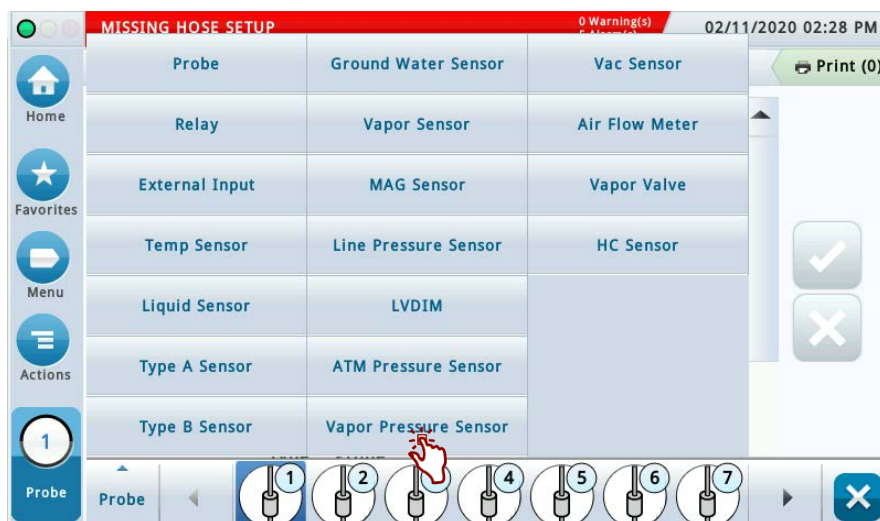
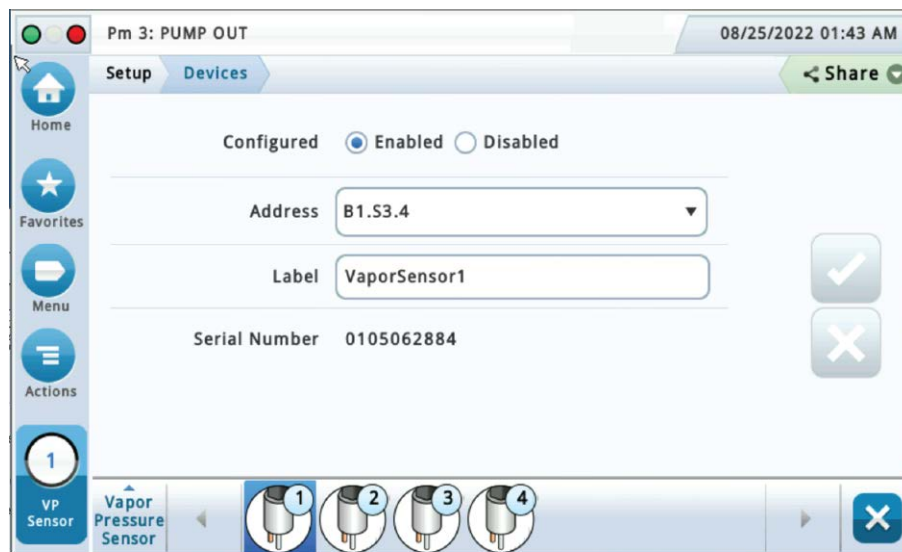

Figure 6. Accessing Vapor Pressure Sensor Setup Screen
Figure 7. Vapor Pressure Sensor Setup Screen
1. Touch Vapor Pressure Sensor in the Menu>Setup>Devices list (Figure 6) to open the VPS sensor setup screen (Figure 7).